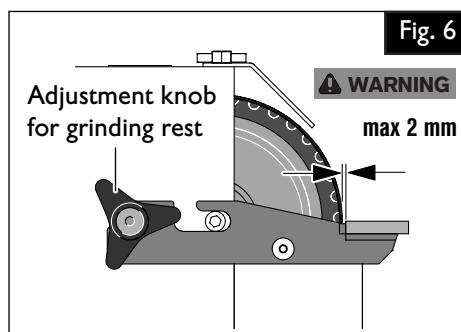

Fig. 6
7.2 Adjusting the grinding rest (Figure 6).